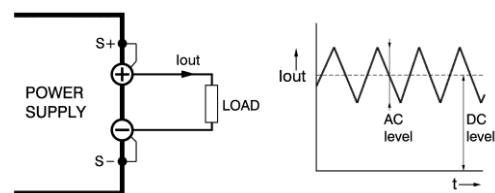

Figure 7.13: Pulsating load current.
- To avoid overheating the output capacitors, the AC component of the DC load current should be limited, see Figure 7.13.
- When using remote sensing on a pulsating load (for instance a DC-motor), use a capacitor in series with a resistor over the load see Figure 7.13. With this the AC component caused by the pulsing of the load is filtered.